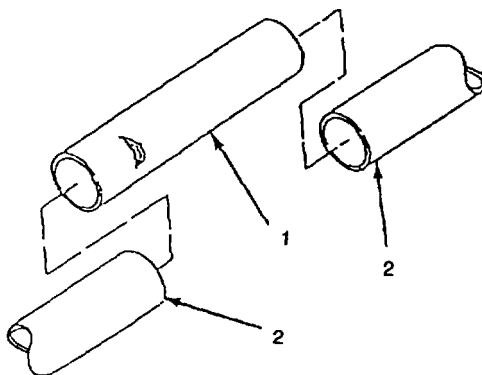

Figure 3-2. Removing Damaged Hose Section
- (c) Cut both sides of hose (1, Figure 3-2) 6 inches (15.2 cm) from leak Remove damaged section of hose.